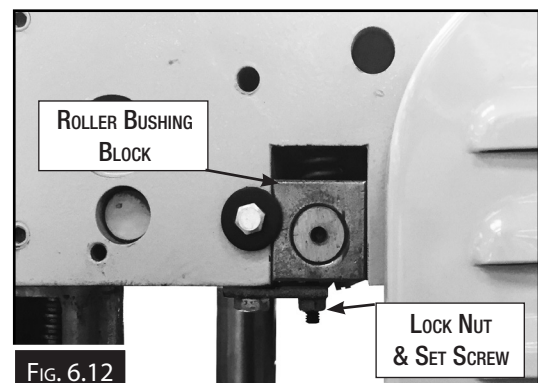

FIG. 6.12
7. Loosen the lock nut and move the set screw (Fig.6.12) to adjust the height of the in-feed roller bushing block until the dial indicator shows 0.1mm, which is the recommended distance for the in-feed roller below the cutter head.